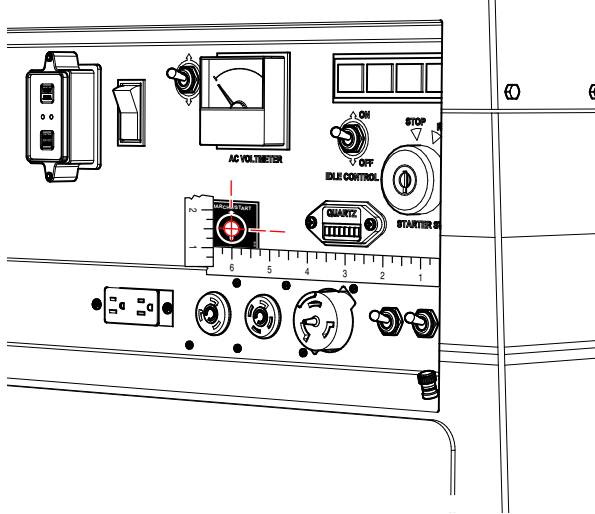

Figure 10. VDC Start Decal Placement
7. Using a phillips head screwdriver, remove the control panel mounting screws (4) as shown in Figure 10.
8. Using a straight-edge ruler, make a mark 6" to the left and 1.5" above (Figure 10) the control panel lower right corner.
10. Apply the VCD start decal (Figure 10) over the marked location. The decal will encircle the toggle switch to be installed on the control panel.